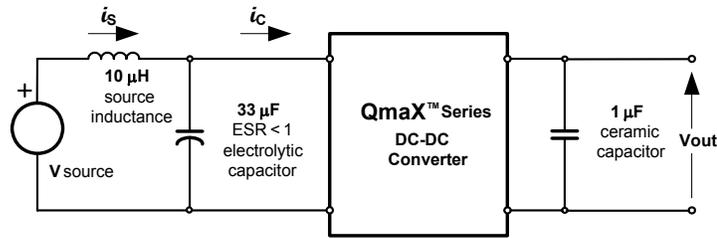

Fig. 1.0V.11: Test Setup for measuring input reflected ripple currents,  $i_c$  and  $i_s$ .
**Fig. 1.0V.1:** Available load current vs. ambient air temperature and airflow rates for QM48T45010 converter with B height pins mounted vertically with  $V_{in} = 48\text{ V}$ , air flowing from pin 3 to pin 1, and MOSFET temperature  $\leq 120\text{ }^\circ\text{C}$ .
**Fig. 1.0V.2:** Available load current vs. ambient air temperature and airflow rates for QM48T45010 converter with B height pins mounted horizontally with  $V_{in} = 48\text{ V}$ , air flowing from pin 3 to pin 1, and MOSFET temperature  $\leq 120\text{ }^\circ\text{C}$ .
**Fig. 1.0V.3:** Efficiency vs. load current and input voltage for converter mounted vertically with air flowing from pin 3 to pin 1 at a rate of 300 LFM (1.5 m/s) and  $T_a = 25\text{ }^\circ\text{C}$ .
**Fig. 1.0V.4:** Efficiency vs. load current and ambient temperature for converter mounted vertically with  $V_{in} = 48\text{ V}$  and air flowing from pin 3 to pin 1 at a rate of 200 LFM (1.0 m/s).
**Fig. 1.0V.5:** Power dissipation vs. load current and input voltage for converter mounted vertically with air flowing from pin 3 to pin 1 at a rate of 300 LFM (1.5 m/s) and  $T_a = 25\text{ }^\circ\text{C}$ .
**Fig. 1.0V.6:** Power dissipation vs. load current and ambient temperature for converter mounted vertically with  $V_{in} = 48\text{ V}$  and air flowing from pin 3 to pin 1 at a rate of 200 LFM (1.0 m/s).
**Fig. 1.0V.7:** Turn-on transient at full rated load current (resistive) with no output capacitor at  $V_{in} = 48\text{ V}$ , triggered via ON/OFF pin. Top trace: ON/OFF signal (5 V/div.). Bottom trace: output voltage (1V/div.) Time scale: 2 ms/div.
**Fig. 1.0V.8:** Turn-on transient at full rated load current (resistive) plus 40,000  $\mu\text{F}$  at  $V_{in} = 48\text{ V}$ , triggered via ON/OFF pin. Top trace: ON/OFF signal (5 V/div.). Bottom trace: output voltage (1 V/div.). Time scale: 2 ms/div.
**Fig. 1.0V.9:** Output voltage response to load current step-change (22.5 A – 33.75 A – 22.5 A) at  $V_{in} = 48\text{ V}$ . Top trace: output voltage (100 mV/div.). Bottom trace: load current (10 A/div). Current slew rate: 1 A/ $\mu\text{s}$ .  $C_o = 470\text{ }\mu\text{F}$  tantalum + 1  $\mu\text{F}$  ceramic. Time scale: 0.2 ms/div.
**Fig. 1.0V.10:** Output voltage ripple (20 mV/div.) at full rated load current into a resistive load with  $C_o = 10\text{ }\mu\text{F}$  tantalum + 1  $\mu\text{F}$  ceramic and  $V_{in} = 48\text{ V}$ . Time scale: 1  $\mu\text{s}$ /div.
Fig. 1.0V.12: Input reflected ripple current,  $i_s$  (10 mA/div), measured through 10  $\mu$ H at the source at full rated load current and  $V_{in} = 48$  V. Refer to Fig. 1.0V.11 for test setup. Time scale: 1  $\mu$ s/div.
Fig. 1.0V.13: Input reflected ripple current,  $i_c$  (100 mA/div), measured at input terminals at full rated load current and  $V_{in} = 48$  V. Refer to Fig. 1.0V.11 for test setup. Time scale: 1  $\mu$ s/div.
Fig. 1.0V.14: Output voltage vs. load current showing current limit point and converter shutdown point. Input voltage has almost no effect on current limit characteristic.
Fig. 1.0V.15: Load current (top trace, 20 A/div, 20 ms/div) into a 10 m $\Omega$  short circuit during restart, at  $V_{in} = 48$  V. Bottom trace (20 A/div, 1 ms/div) is an expansion of the on-time portion of the top trace.